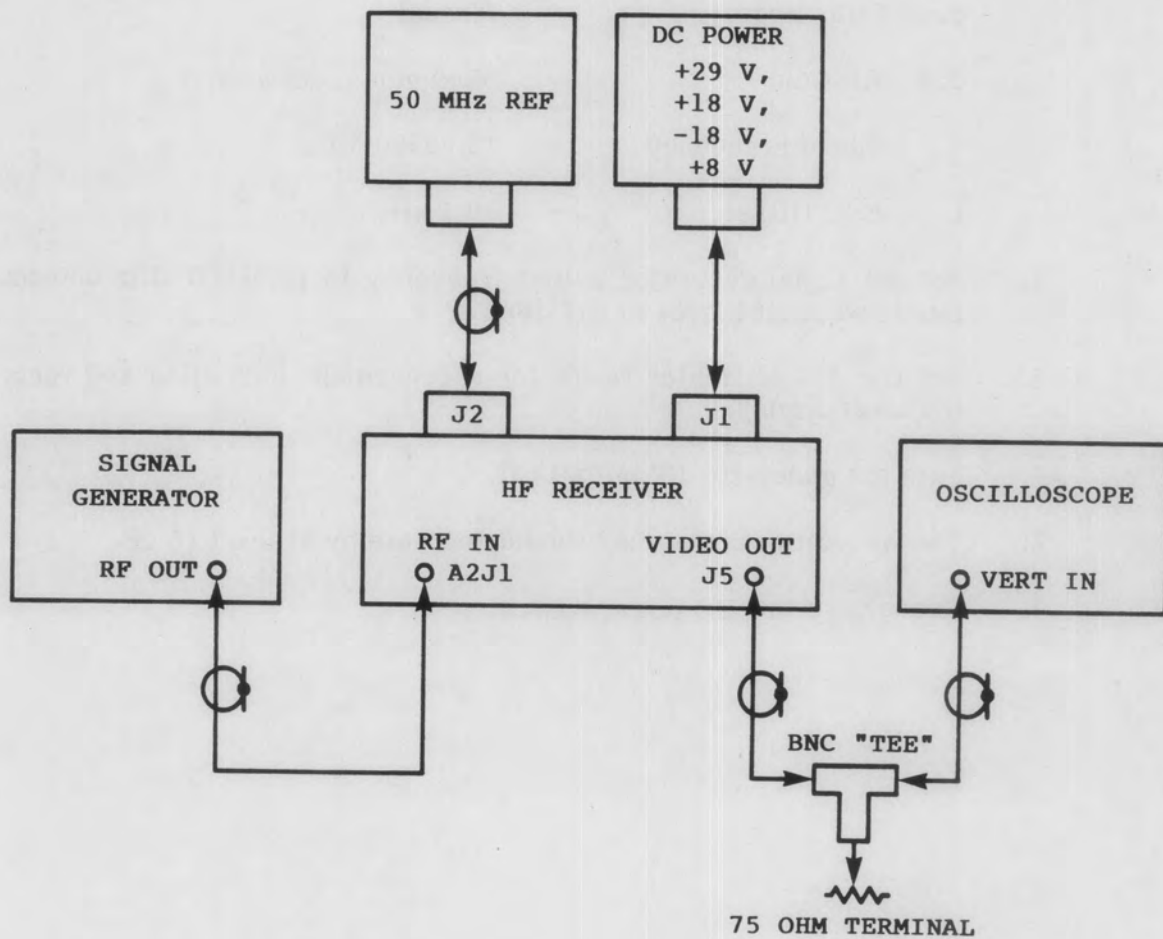

Figure 4-2. Detection Mode Test Equipment Setup
1. Connect the receiver as shown in **Figure 4-2**.